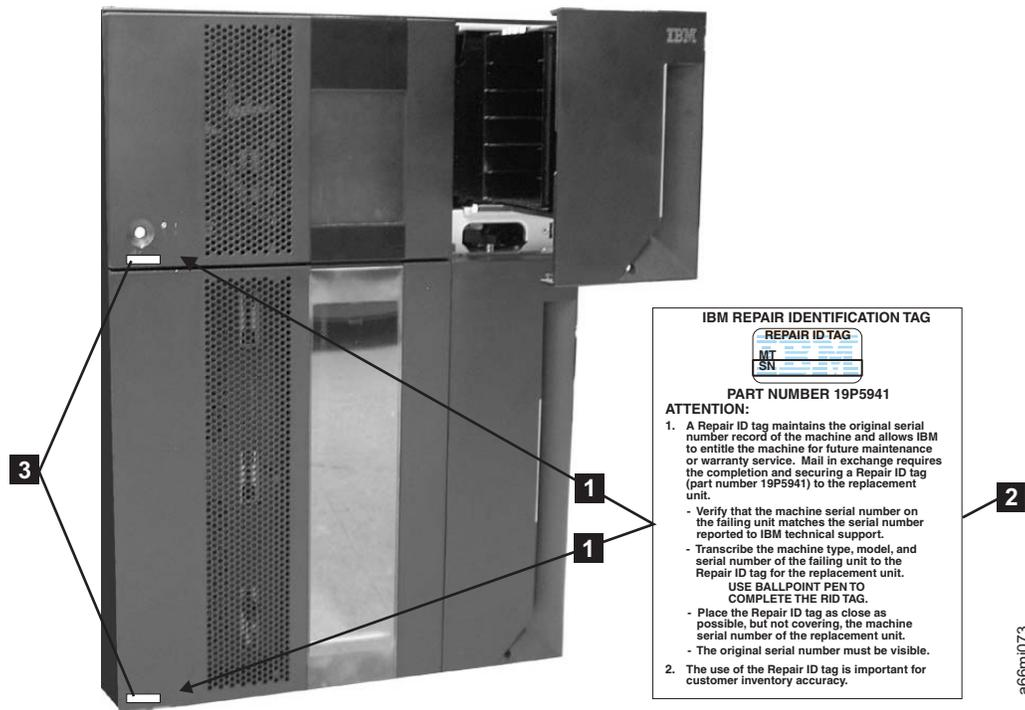

Figure 7-19. RID tag placement
1. Copy the serial number from the label in the lower left corner of the old enclosure onto the RID tag (**2** in Figure 7-19).
2. Place the RID tag to the right of, but not covering, the serial number label located in the lower left corner of the new library enclosure (1 in Figure 7-19 on page 7-31).